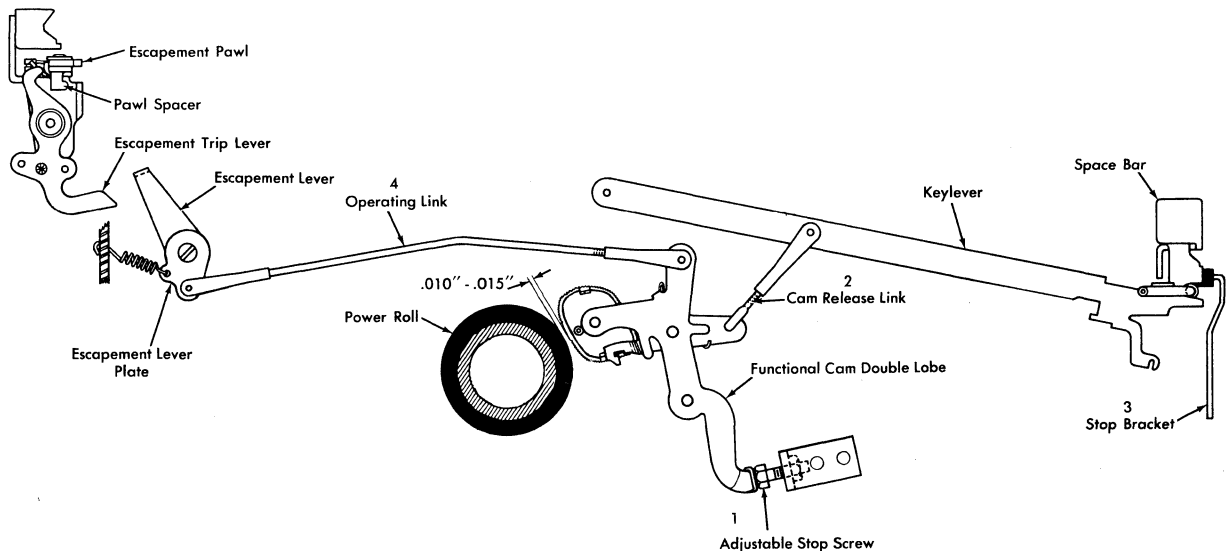

Figure 17. Spacebar Adjustment
trip the cam when the keylever is depressed $\frac{1}{2}$ to $\frac{3}{4}$ of its total travel (Figure 17).
3. Adjust the spacebar stop bracket (Figure 17) so that the cam lug safely resets from the non-repeat lug of the cam release lever with a minimum of over-travel of the keylever.
4. Adjust the spacebar operating link by the clevis on the front, or cam, end so that, when operated by hand, the escapement trips just before the cam reaches its highest point (Figure 17). Test to see that the mechanism does not choke off by noting that the